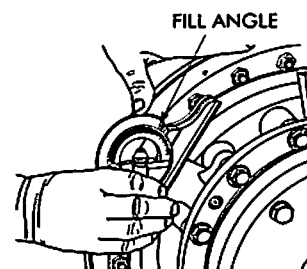

Figure 6
- B. Use either an angle finder or a bevel protractor with spirit level set for the required fill angle, and place it on flat boss of filler hole as shown in Figure 6.